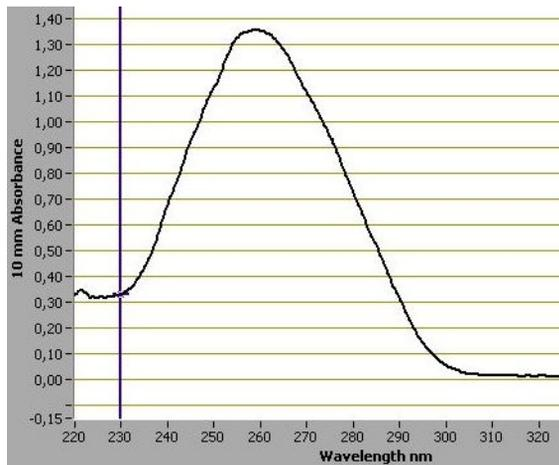

Figure 2 Typical spectrum of pure DNA
- 4 Record the A_{260}/A_{280} and A_{260}/A_{230} ratios. High-quality gDNA samples have an A_{260}/A_{280} ratio of 1.8 to 2.0, which indicates the absence of contaminating proteins. Scanning the absorbance from 220-320 nm will show whether contaminants exist that affect absorbance at 260 nm. Check the absorbance scans for a peak at 260 nm and an overall smooth shape as shown in Figure 2. The ideal 260/230 ratio for pure DNA is >1.0 .